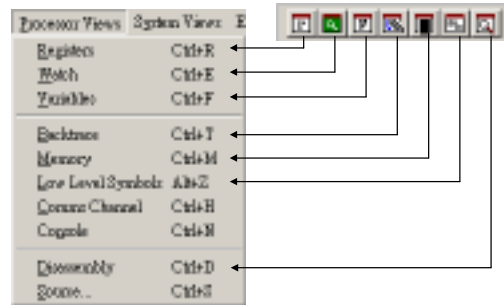

Figure 7. Processor View Menu and its corresponding Toolbar.
7. Select **Variables** from the **Processor Views menu** (Figure 7) to check progress. Reposition or resize the window if necessary.
5. Select **Watch** from the **Processor Views menu** (Figure 7) and reposition or resize the window if necessary. You can specify items to watch on several tabbed pages. In this example you examine a few variables using the first tabbed page only.